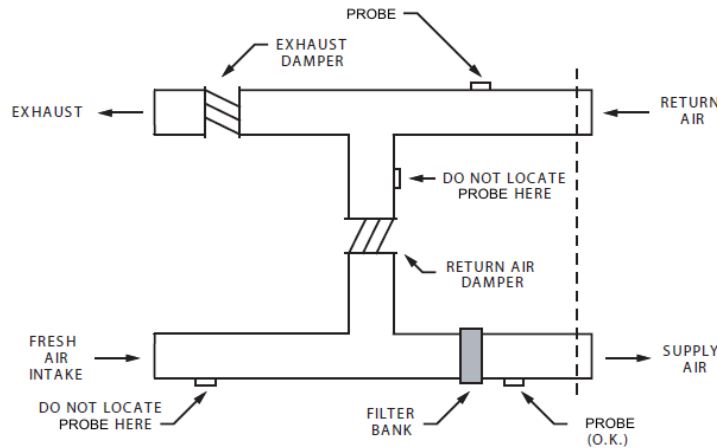

Figure 3-8: Probe Placement - Location of Dampers
- Position the probes so that dampers do not restrict air flow at the probe location (Figure 3-8).
- Position the probes on the return or supply duct of the equipment's air handling system. However, probes should NOT be installed in the return air damper branch (Figure 3-8).
- Position the probes on the downstream side of filters to sense fire in filters. However, should the filters block, sufficient air flow may not be available for proper detector/sensor operation (Figure 3-8).